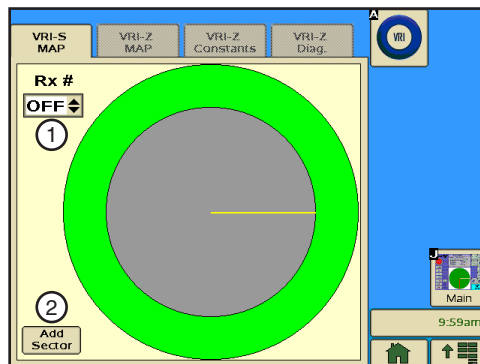

Figure 50-1 1. Prescription Selection Drop-Down Menu
1. Push **Options, VRI, VRI-S Map** to display the VRI-S Map screen. Refer to Figure 50-1.